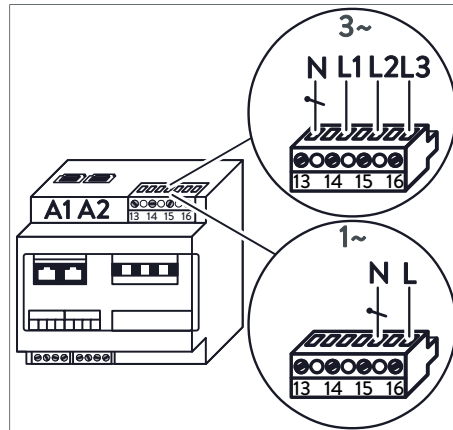

Figure 4: Connection to the voltage measurement terminal strip at single-phase (1~) and three-phase (3~) mains
► Wire the individual strands as shown in the top part of figure 4.
► Wire the individual strands as shown in the lower part of figure 4.